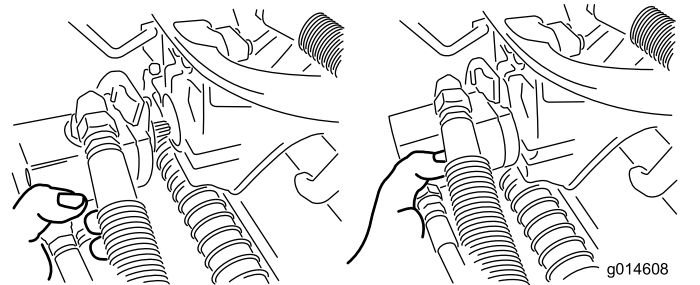

Figure 59
3. Move the motor to the storage location on the front of the suspension arm (Figure 59).